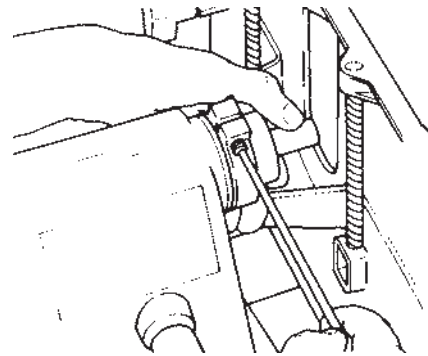

Figure B-128
3. Mount the lower saw guard on the quill so that the stop screw below the collar butts against the stop collar on the quill. Align the ridge on the headstock with the slot in the collar. Tighten the screw on the collar. See Figure B-128. Loosen the two knobs and slide the guard cover to the right.